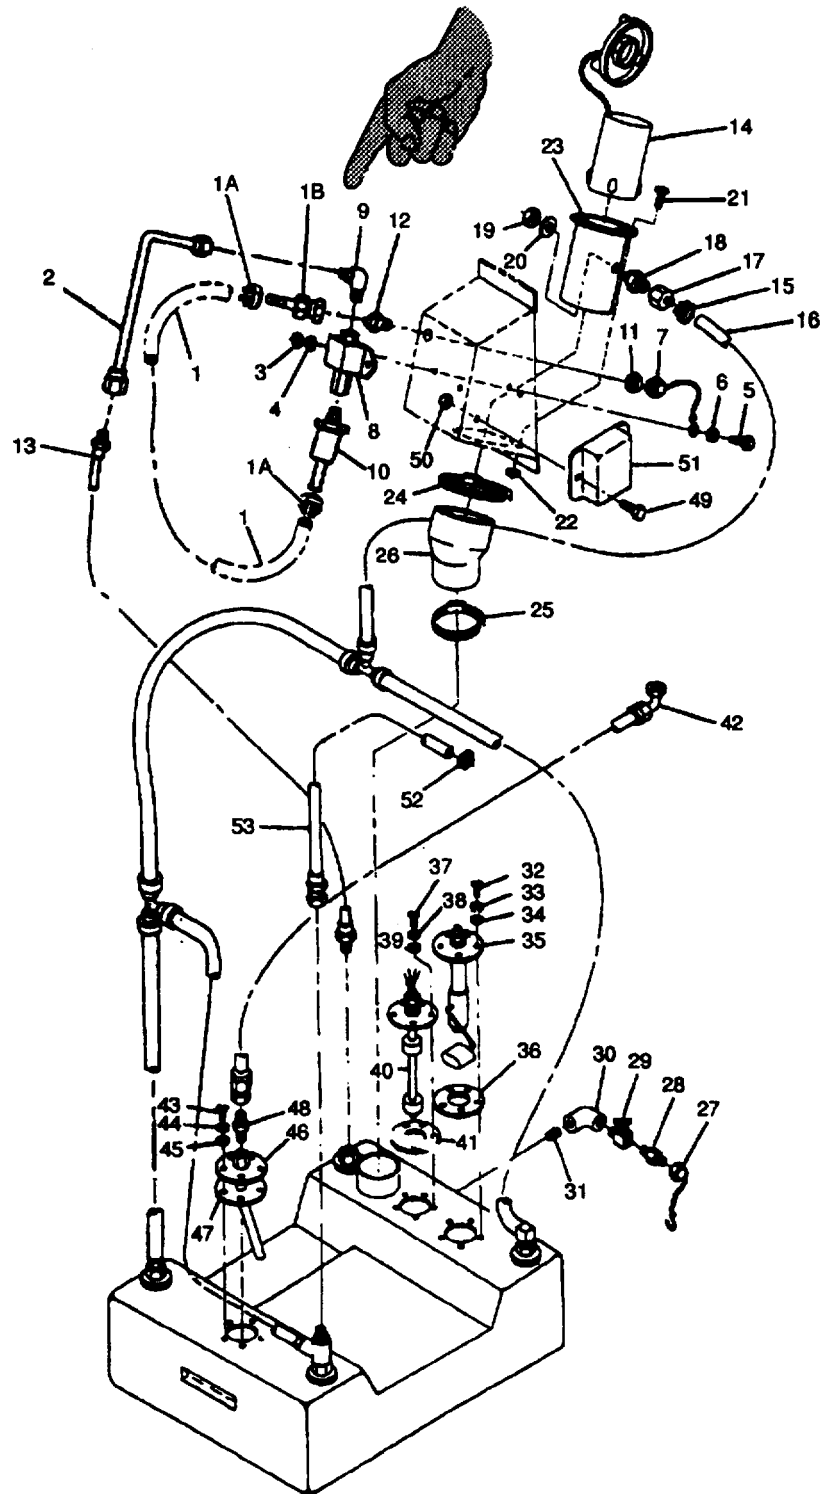

FIGURE 2-27. Fuel Tank Filler Neck and Low Pressure Fuel System
- c. Identify fuel line or fitting that is damaged or leaking and must be removed as shown in FIGURE 2-27
- b. Inspect auxiliary fuel pump (8, FIGURE 2-27) for leaks, cracks, missing hardware, loose connections, and other damage.
- d. Disconnect auxiliary fuel pump outlet line (13, FIGURE 2-27) at fuel tank fitting and place disconnected end in measuring container.
- h. Connect auxiliary fuel pump outlet line (13) at fuel tank fitting.
- d. Tag and disconnect auxiliary fuel pump (8, FIGURE 2-27) electrical connector.
- e. Loosen damps (1a). Disconnect fitter (10) and remove adapter fitting (1b) from filler neck panel fitting (12). Remove adapter fitting (1b) from fuel inlet hose (1). Remove fitter (10) from auxiliary fuel pump (8). Cap fuel inlet hose.
- f. Disconnect auxiliary fuel outlet line (2) from auxiliary fuel pump (8).
- g. Remove nuts (3), lockwashers (4), bolts(5), washers(6), cap and chain assembly(7), and auxiliary fuel pump (8).
- h. Remove fitting (9) from auxiliary fuel pump (8).
- i. If necessary, remove nut (11) and fitting (12) from fuel filler panel.
- a. If removed, install fitting (12, FIGURE 2-27) and nut (11) in fuel filler panel.
- b. Install fitting (9) on auxiliary fuel pump (8).
- c. Install auxiliary fuel pump (8) and cap and chain assembly(7) in generator set with bolts (5), washers (6), lockwashers (4), and nuts (3).
- d. Connect auxiliary fuel outlet line (2) to auxiliary fuel pump (8).
- e. Remove caps from fuel inlet hose (1). Install filter (10) on auxiliary fuel pump (8). Install adapter fitting (1b) on fuel inlet hose (1) and connect adapter fitting (1b) to filler neck panel fitting (12). Connect other end of fuel inlet hose to filter (10). Tighten damps (1A).
- c. Remove cap (27, FIGURE 2-27), open fuel drain valve (29) and drain fuel into suitable container.
- e. Remove filler neck cap and tube assembly (14).
- f. Loosen clamp (15) and disconnect hose (16) from adapter (17).
- g. Remove adapter (17) from fitting (18).
- h. Remove nut (19), washer (20), and fitting (18) from side of filler neck (23).
- i. Remove bolts (21) and nuts (22) securing filler neck (23) to generator set housing.
- j. Remove clamps (24) and (25), hose (26), and filler neck (23) from fuel tank opening. Cover fuel tank opening.
- c. Inspect hose (26, FIGURE 2-27) for cracking, wear, or other damage.
- d. Inspect filler neck (23) for corrosion, cracking, or other damage.
- e. Inspect filler neck cap and tube assembly (14) for damage.
- a. Position hose (26, FIGURE 2-27), clamps (24) and (25), and filler neck (23) on fuel tank.
- b. Install bolts (21) and nuts (22) securing filler neck (23) to generator set housing.
- c. Tighten clamps (24) and (25).
- d. Install fitting (18), washer (20), and nut(19) inside of filler neck (23).
- e. Install adapter (17) on fitting (18) and connect hose (16) to adapter (17) with clamp (15).